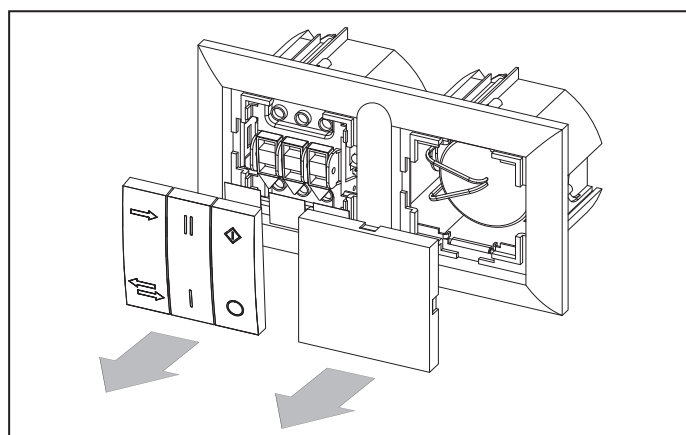

Fig. 18.
15. Uplift gently the buttons and take the buttons and the plug from the control panel SEA-T12 off, Fig. 18.